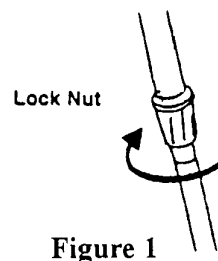

Figure 1
1. Turn the lock nut on the stem clockwise to loosen (see Figure 1).